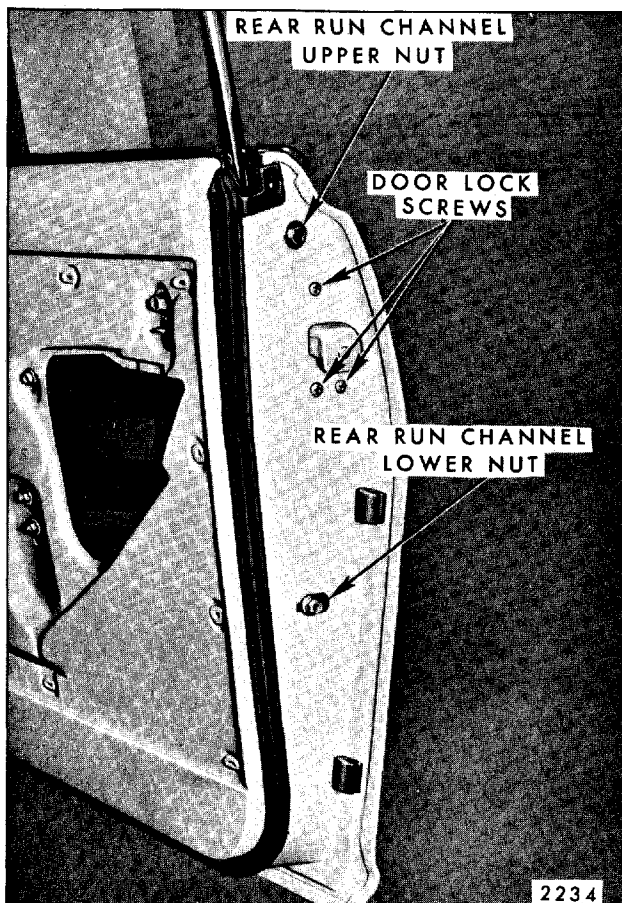

Fig. 7-100—Door Lock Pillar - "X-37" Style
4. To install, reverse removal procedure (see Fig. 7-100).